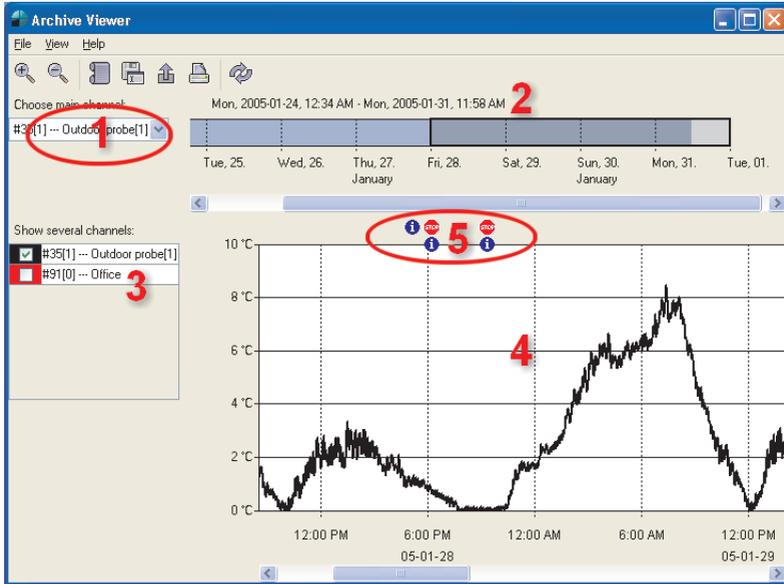

Figure 4.1: User interface of the Archive Viewer
Figure 4.1 shows the user interface of the Archive Viewer. The following functions are represented by the tool buttons on the upper side of the window:
Just below this toolbar you find the channel selector (1 in figure 4.1) and the timeline (2). With the channel selector you can choose the main channel you want to display. All intervals that contain data of this selected channel are represented by blue rectangles in the timeline.